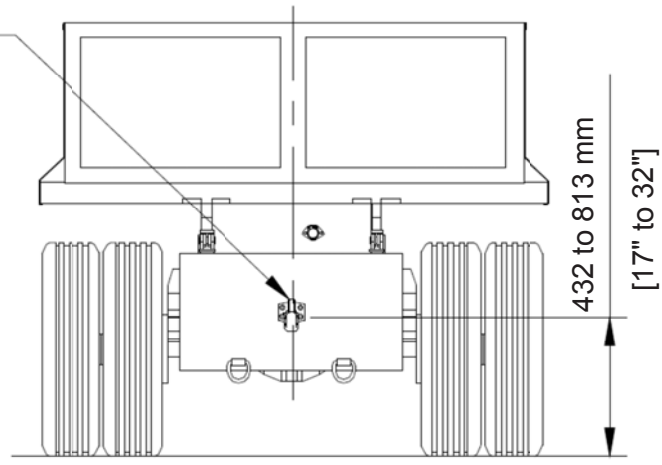

**Figure 38**
4. Use the angles as a template for marking and drilling holes in the truck frame (See Figure 38).
11. If 1/2" plate extends below truck frame, incorporate a 4" x 4" x 1/2" or larger reinforcement angle behind existing hitch plate capable of withstanding a 392 kN [90,000 lb.] centered impact force. Attach with 3/4" x 3" Grade 5 bolts as shown in Figure 38. Bolt or weld pintle hook to rear plate, centering it vertically on the 4" x 4" x 1/2" horizontal reinforcement angle.